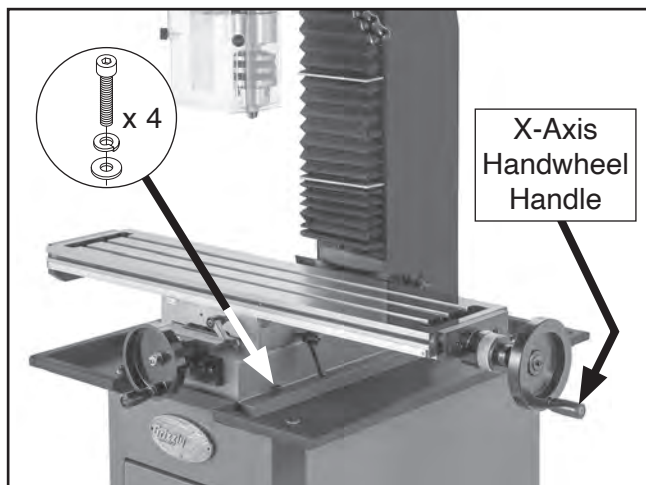

Figure 16. Machine attached to stand (G0982 shown).
7. With assistant to steady machine to prevent it from swinging, carefully lift machine and place it onto stand (see **Figure 16**), then remove lifting sling.
8. Attach machine to stand with (4) M8-1.25 x 30 cap screws, 8mm lock washers, and 8mm flat washers (see **Figure 16**).
9. **G0982 Only:** Thread X-axis handwheel handle into X-axis handwheel (see **Figure 16**).